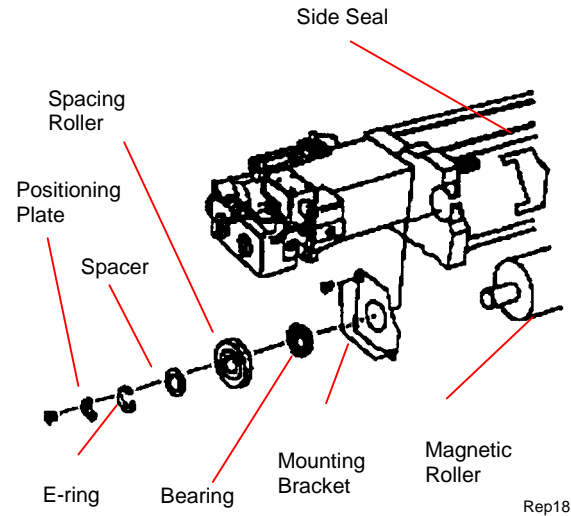

Figure 2. Removing Developer Assembly Components (Right side)
5. (Figure 2): Remove the screw and the Positioning Plate.